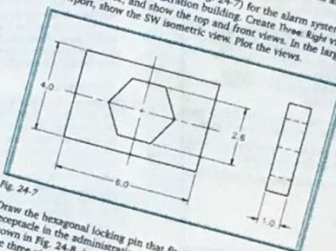

Fig. 24-7
1. Draw the locking receptacle (Fig. 24-7) for the alarm system to be installed in the administration building. Create three right viewports in paper space, and show the top and front views. In the large right viewport, show the SW isometric view. Plot the views.